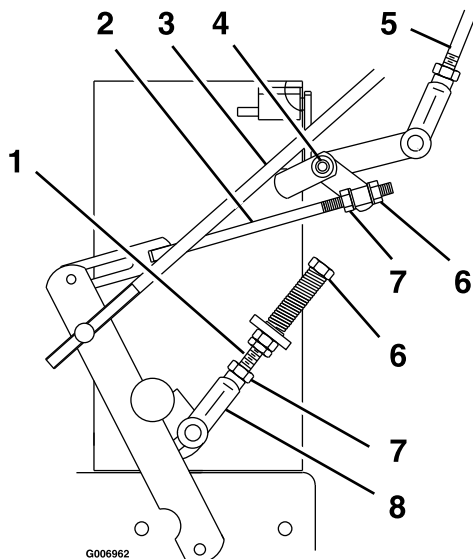

Figure 19
4. Loosen the nut against the neutral control linkage yoke as shown in Figure 19.
2. Loosen the front nut on left hydro control linkage as shown in Figure 19. Turn the rear control linkage adjusting nut counterclockwise until wheel rotates forward. Turn the rear nut of left control linkage clockwise 1/4 of a turn at a time, stopping to move the speed control forward and back to neutral, until left wheel stops rotating forward.